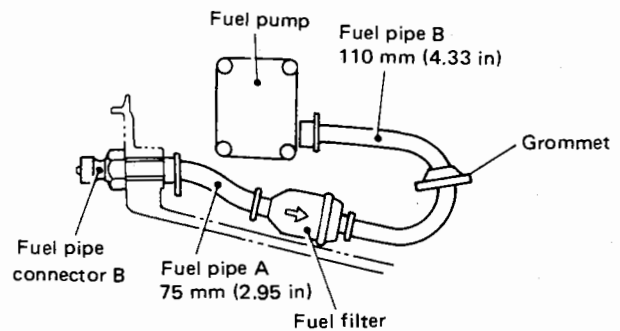

Fig.9.12
- b. Do the fuel piping as shown in Fig.9.12, and locate the fuel pipe B between the C.D. Ignition unit and the crankcase.